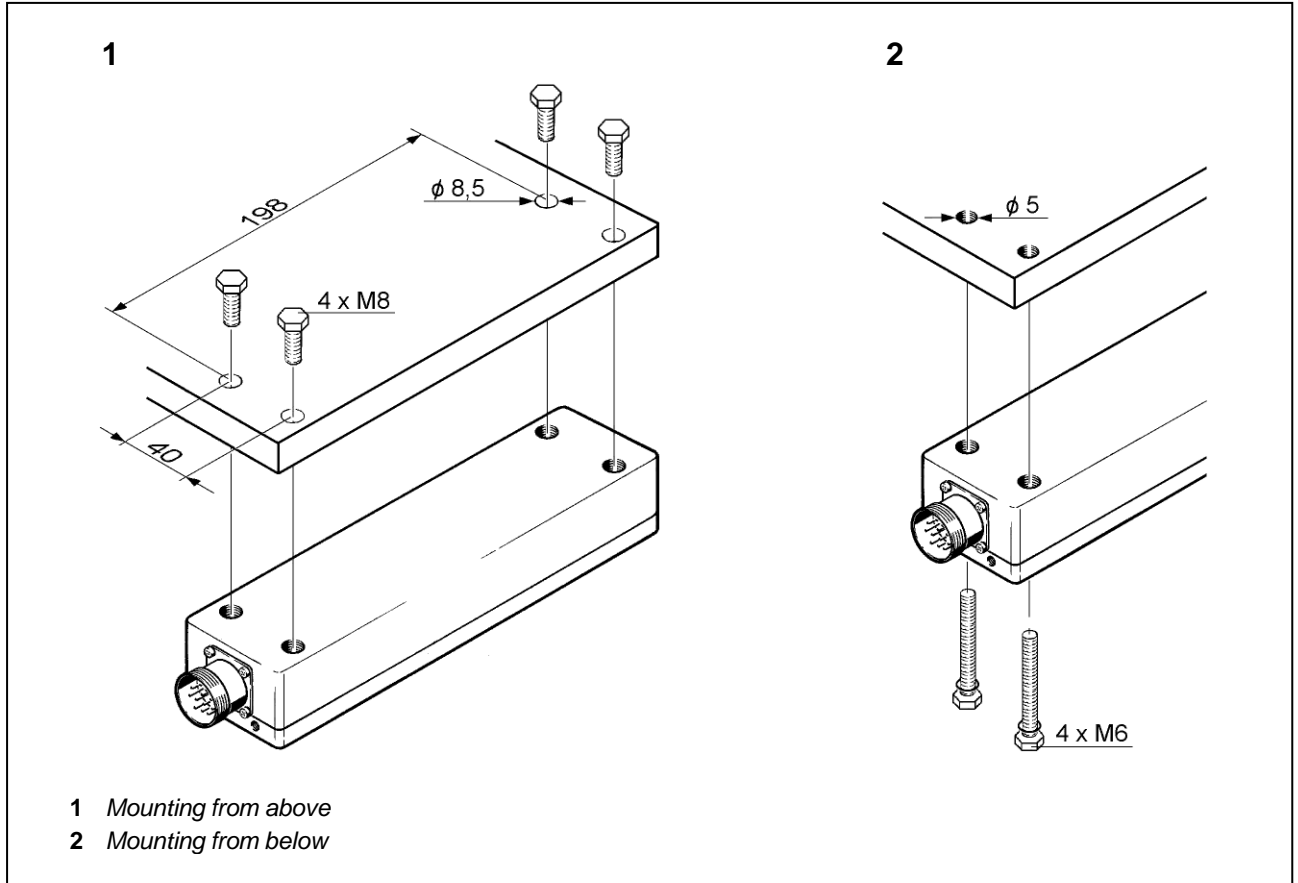

Fig. 8-1 Mounting options for the sensor
- Taking into account the conditions and the dimensions specified in Fig. 8-1, either drill four clearance holes (diameter 8.5 mm) or four tapping holes (diameter 5 mm) into the sensor mounting plate.